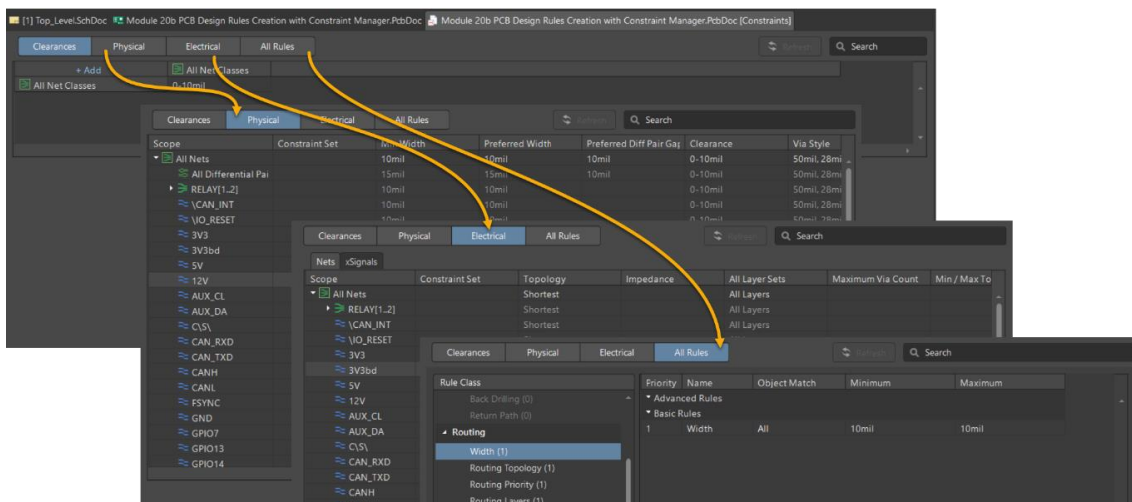

Figure 2. The four different constraint types from the Constraint Manager
13. Select the four different constraint types on top to see the different configuration areas from the Constraint Manager, as seen at Figure 2.